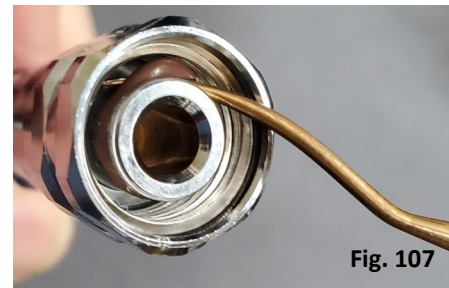

Fig. 107
2. Using a stiff plastic pick, attempt to dig or hook the o-ring from the center post of the second stage end of the hose. If this is not possible, the o-ring can occasionally be removed by carefully sliding a curved thin brass pick underneath (Fig. 107). If your LP hose design has a deep placement of the sealing o-ring, spearing it carefully with the tip of a thin brass pick may be your only alternative. It is important to not damage the sealing land with the tip of the sharp pick.